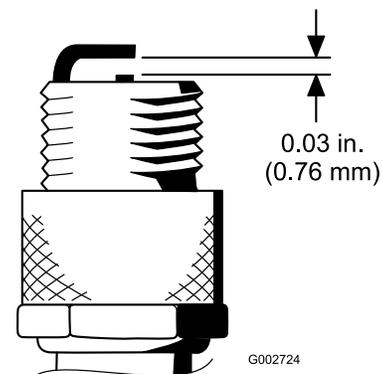

Figure 43
4. Set the air gap between the center and side of the electrodes at 0.76 mm (0.030 inch) as shown in Figure 43.